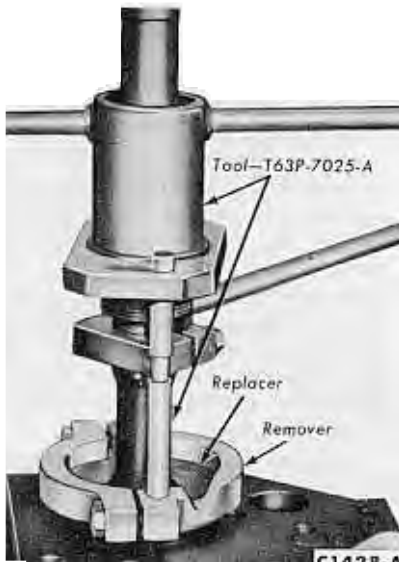

FIG. 21—Installing Output Shaft Rear Bearing
19. Install the large snap ring on the rear bearing. Place the bearing on the output shaft with the snap ring end toward the rear of the shaft. Press the bearing into place with the tool shown in Fig. 21. Secure the bearing to the shaft with a snap ring.